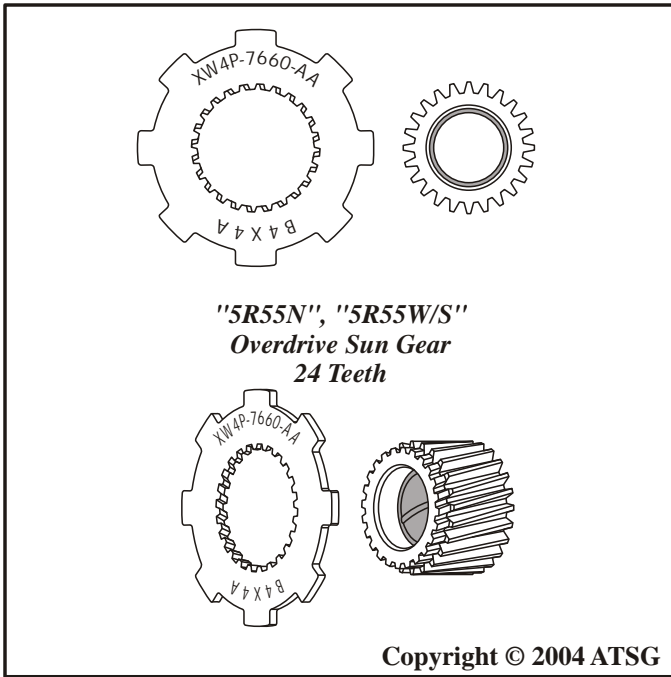

Figure 193
*Figures 193 and 194 show you the differences in the overdrive sun gear and drive plate. Notice the differences in the tooth count on the sun gear.*